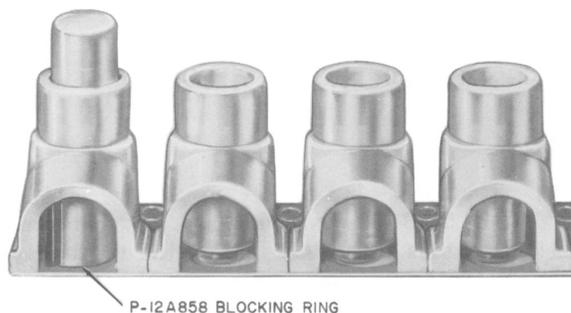

Fig. 3—P12A858 Blocking Ring, Installed
3.02 An unused button can be blocked with the P-12A858 blocking ring furnished (Fig. 3).